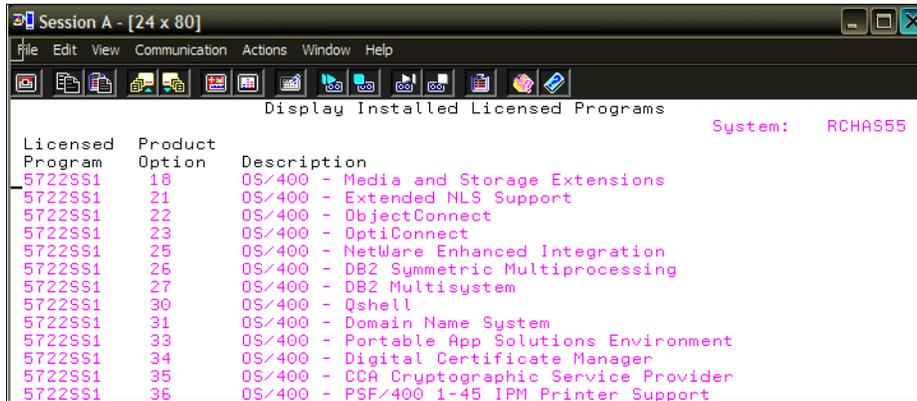

Figure 11-1 Installed licence program -5722SS1-33
- ▶ Install the licence program 5722-SS1 Option 33 - **Portable Solutions Application Environment**. You can see the installed licence program shown in Figure 11-1.